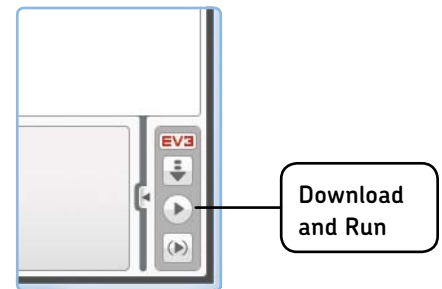

Figure 3-4: Downloading a program to the robot and running it. The letters EV3 in red indicate that the robot is successfully connected to your computer.
5. Now click the **Download and Run** button (see Figure 3-4). Your computer should download this simple program to your robot, and your robot should start moving forward. To download and run this program again, simply click this button again.